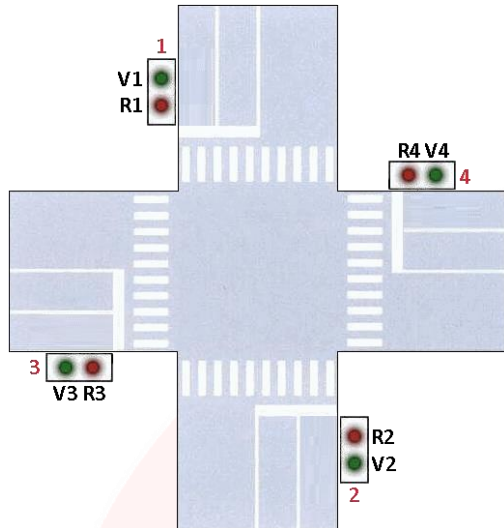

Fig. 14
- Adjust T1 trimmer to pre-set MINIMUM length when both traffic lights have to show red signs (Fig. 14);
- Adjust T3 trimmer to pre-set MAXIMUM waiting time at red light, in case the opposite traffic light is constantly green due to heavy traffic passages (Fig. 14).